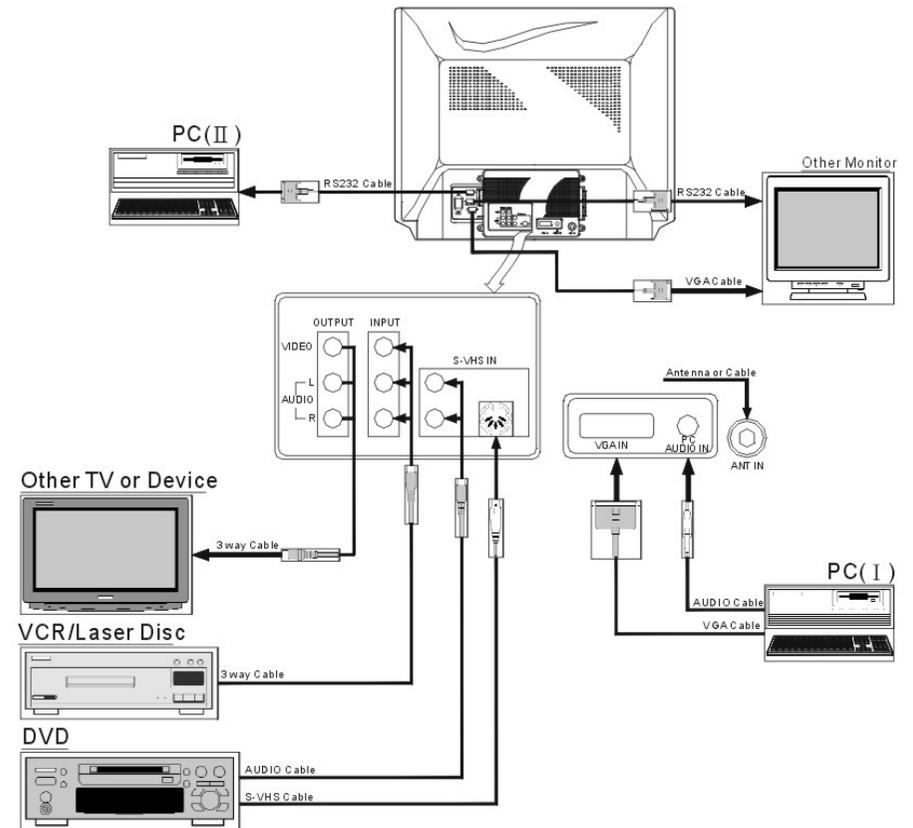

FIGURE 2 : DM-XX52KF CONNECT WITH CT-1871 VISION CONVERTER
- b. The following descriptions are based on Monitor connected with video converter ready. **【See Figure 2 ~ 3】**